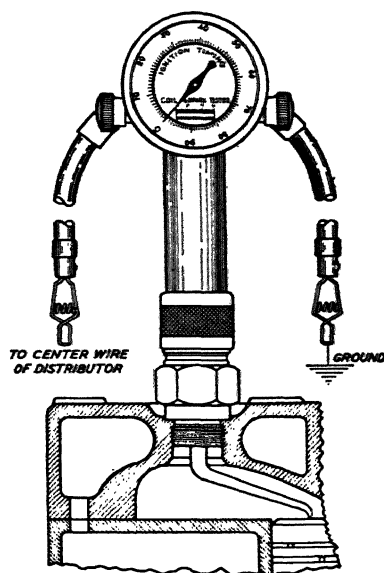

Fig. 23. Checking Ignition Timing
**Ignition Timing Indicator.** The type of ignition timing indicator utilized for timing of Chrysler motors is illustrated in Fig. 23. The device is assembled to the engine at the spark plug hole. An indicating arm is projected into the combustion chamber to rest on top of the piston which is brought onto upper dead center compression stroke. In any case, it is necessary to consult the data sheet supplied by the maker of this type of equipment or by the car